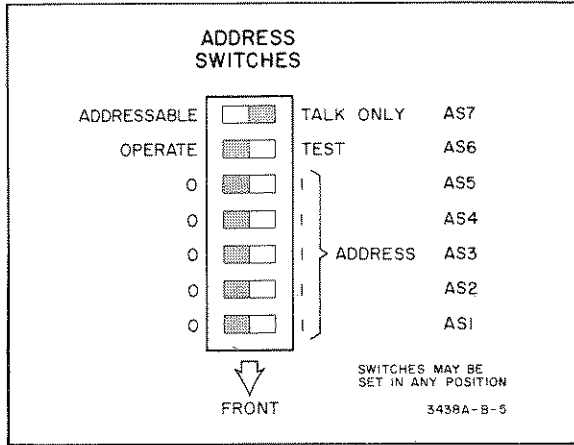

Figure 3-10. Talk Only Switch Settings.
3-33. The Talk Only Mode is used in an HP-IB system without a controller. The Address Switches AS6 and AS7, which are located on the A3 Logic board (remove top cover), must be set as shown in Figure 3-10 for this mode. AS1 through AS5 may be set in any position.
- f. Set the Multimeter Address Switch to Talk Only/Operate as shown in Figure 3-10.